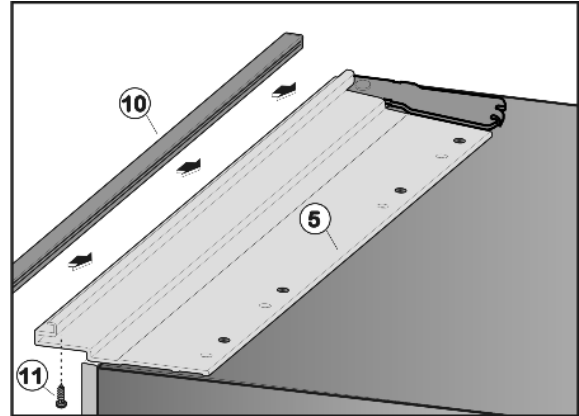

Fig. 50
- ▶ Position end strip Fig. 50 (10) over the installation contour Fig. 50 (5) and align it such that the holes in ventilation grille and installation contour are above each other.
- ▶ Screw end strip Fig. 50 (10) to installation contour Fig. 50 (5) from below using three screws Fig. 50 (11).